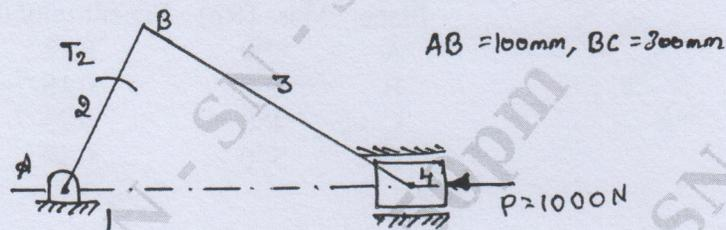

Fig Q2(b)
b. A slider crank Mechanism as shown in Fig Q2(b) the force applied to the piston is 1000N when the crank is at  $60^\circ$  from TDC. Calculate the driving Torque  $T_2$ .